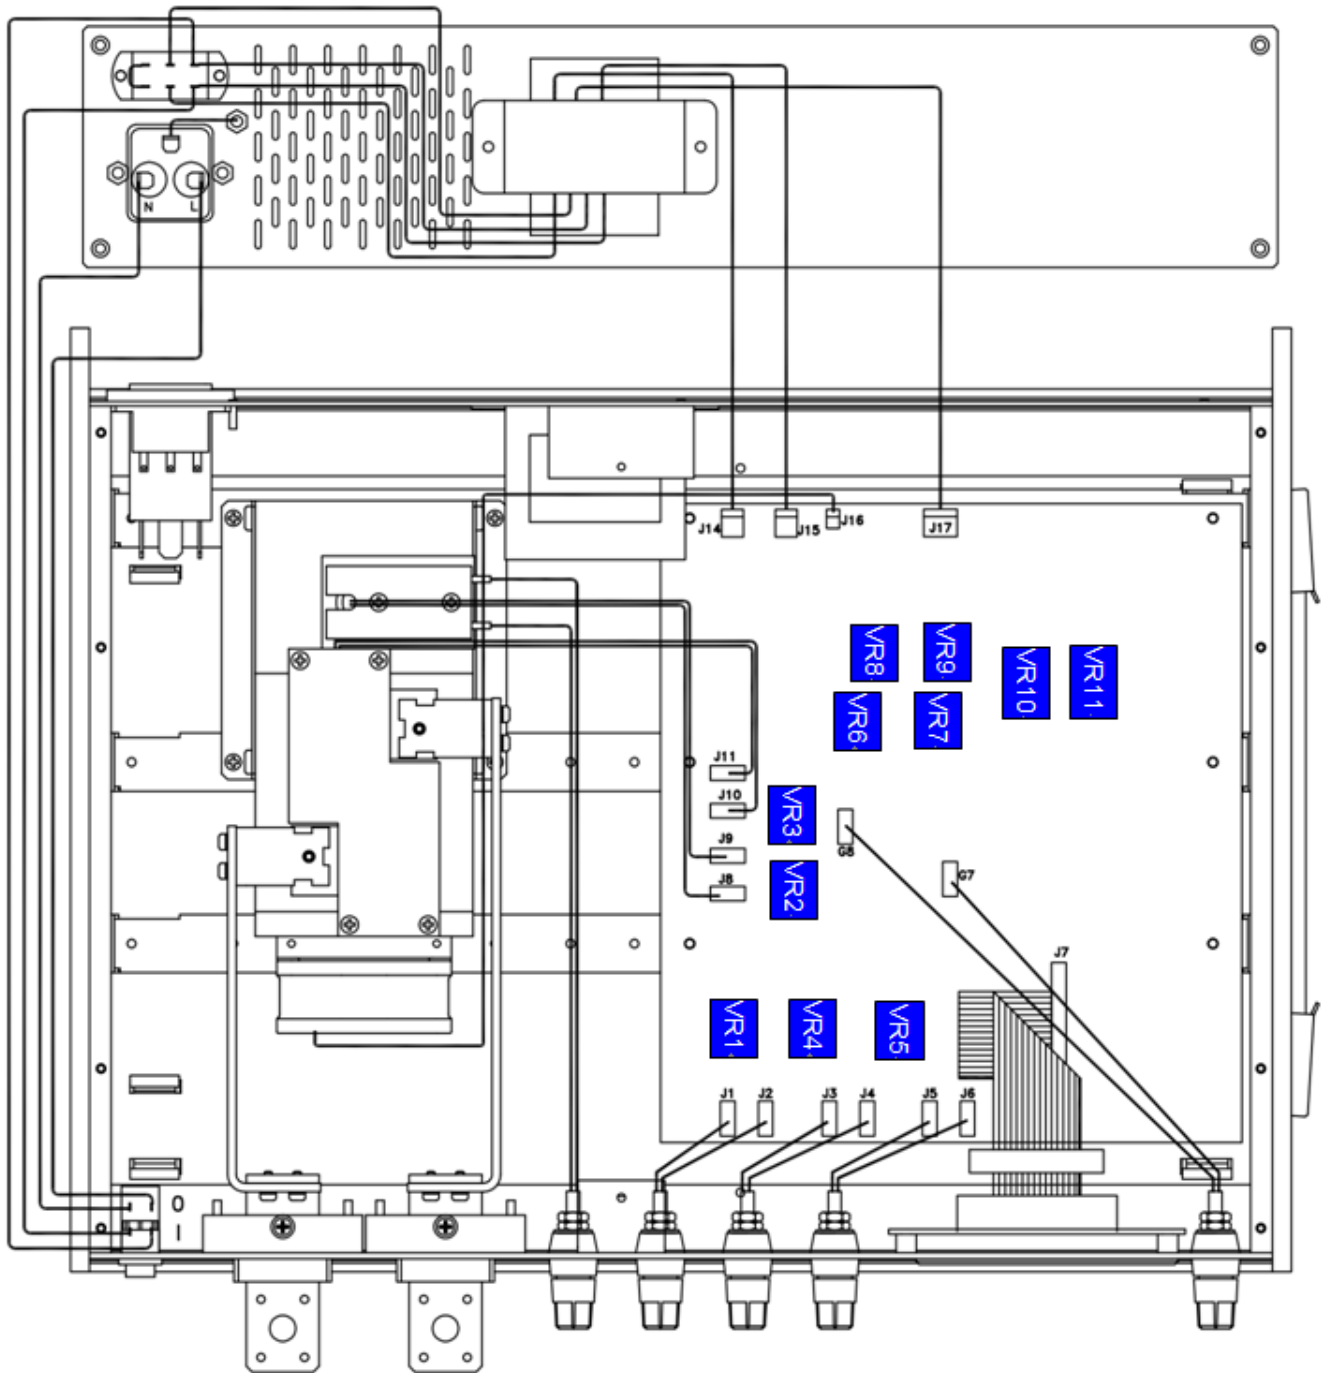

Fig 4-1 Potentiometer layout diagram
The 7550A should be calibrated, at intervals best determined by the user. It will be necessary to remove the top cover of instrument to gain access to the calibration adjustments. Top cover is removed by removing six screws. The adjust potentiometer and reference are shown on fig 4-1. There are two circuitry needs to be calibrated : shunt and DAM these calibrations may be performed independently.
- 4.3.1. Press the key switch to the 20mA position calibrator cables to the 20mA range terminals. Set the current calibrator output for 10mA and adjust VR5 (see fig 4-1) until the DVM reading is the same as the current calibrator output.
- 4.3.2. Press the key switch to the 200mA position, connect the current calibrator cables to the 200mA range terminals. Set the current calibrator output for 100mA and adjust VR4 (see fig 4-1) until the DVM reading is the same as the current calibrator output.
- 4.3.3. Press the key switch to the 2A position, connect the current calibrator cables to the 2A range terminals. Set the current calibrator output for 1A and adjust VR1 (see fig 4-1) until the DVM reading is the same as the current calibrator output.
Press the key switch to the 20A position, connect the current calibrator cables to the 20A range terminals. Set the current calibrator output for 10A and adjust VR2 (see fig 4-1) until the DVM reading is the same as the current calibrator output.
Press the key switch to the 250A position, connect the current calibrator cables to the 250A range terminals. Set the current calibrator output for 100A and adjust VR3 (see fig 4-1) until the DVM reading is the same as the current calibrator output.
Disconnect all of the CURRENT INPUT input terminals, adjust VR8 (see fig 4-1) until the 4 1/2 digit current meter on the front panel is display 0.000mA.
Connect the current calibration cables to the 20mA range terminals, set the current calibrator output for 40mA then the DVM reading is 400.00mV. Adjust VR11 (see fig 4-1) until the 4 1/2 digit current meter reading is 40.00mA of front panel.
Set the current calibrator output for 15.0mA then the DVM reading is 150.000mV. Adjust VR6 (see fig 4-1) until the 4 1/2 digit current meter reading is 15.000mA of front panel.
Disconnect all of the CURRENT INPUT terminals, adjust VR9 (see fig 4-1) until the 4 1/2 digit current meter on the front panel is display 0.000mA.
Connect the current calibrator cables to the 2A range terminals, set the current calibrator output for 1000mA then the DVM reading is 1000.00XmV. Adjust VR10 (see fig4-1) until the 4 1/2 digit current meter reading is 1000.0mA of front panel. Disconnect all equipment.